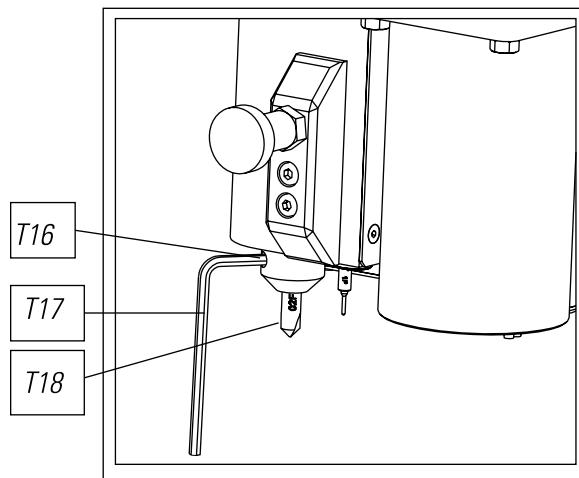

FIG. 32
- 3) Unscrew the prisoner screw (T16) with a 3mm spanner (T17) and remove the cylindrical cutter (T18). Fig. 32